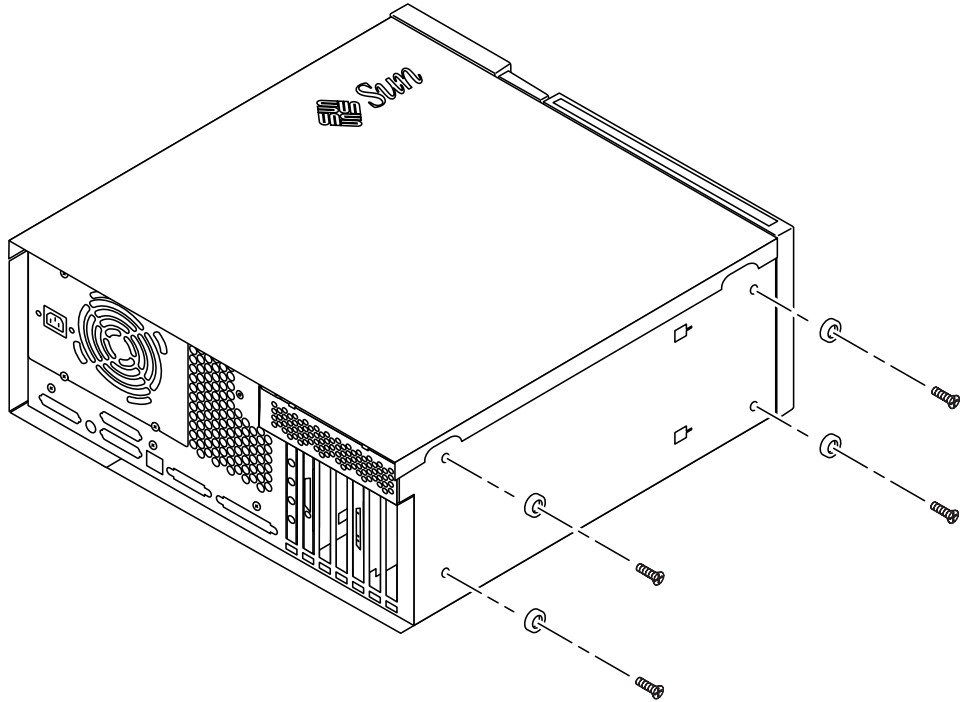

FIGURE 10 Removing the Ultra 30/60 System Feet
3. Remove the system feet (FIGURE 10).